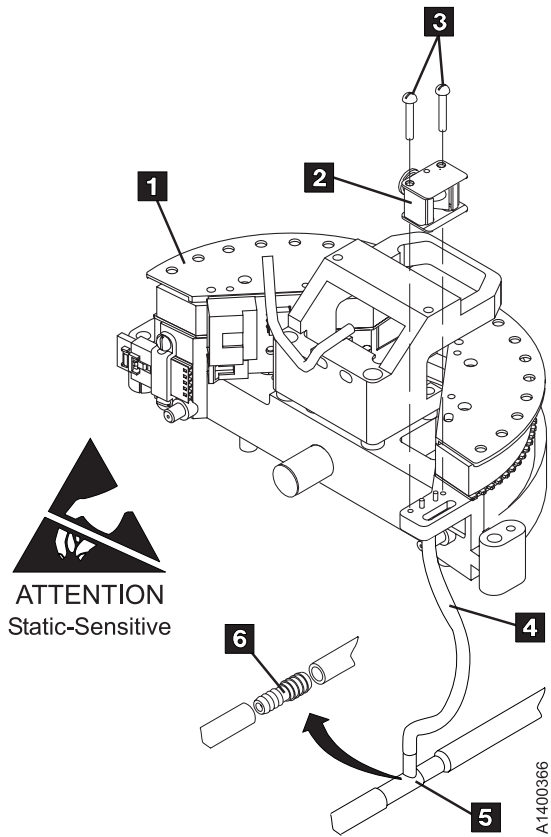

Figure 10-78. Cleaner Blade Removal – Models B11/B1A
- All of the E11/E1A and H11/H1A Head Guide Assemblies (HGAs) and most of the Model B11/B1A HGAs will not have a Cleaner Blade, as shown in Figure 10-78 on page 10-113, item **2**. If you are replacing a Head Guide and Brush Assembly, and the replacement part **does** have a cleaner blade attached to it, follow this procedure to remove it.
4. Referring to Figure 10-78 on page 10-113, remove two screws, **3** holding the cleaner blade assembly, item **2** onto the Head Guide and Brush Assembly, item **1**.